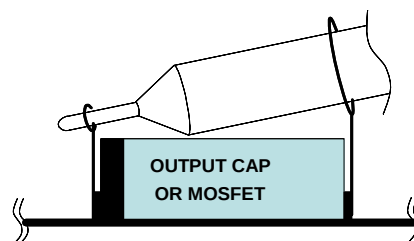

FIGURE 3. OSCILLASCOPE PROBE SET-UP
6. Use oscilloscope to observe output ripple voltage and phase node ringing. For accurate measurement, please refer to Figure 3 for proper probe set-up.